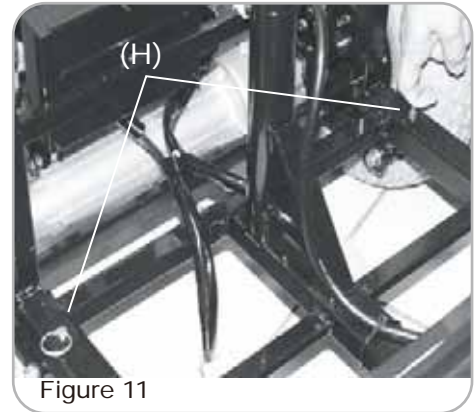

Figure 11
Release two Locking Pins (H) to separate front and rear units. (See Fig. 11)